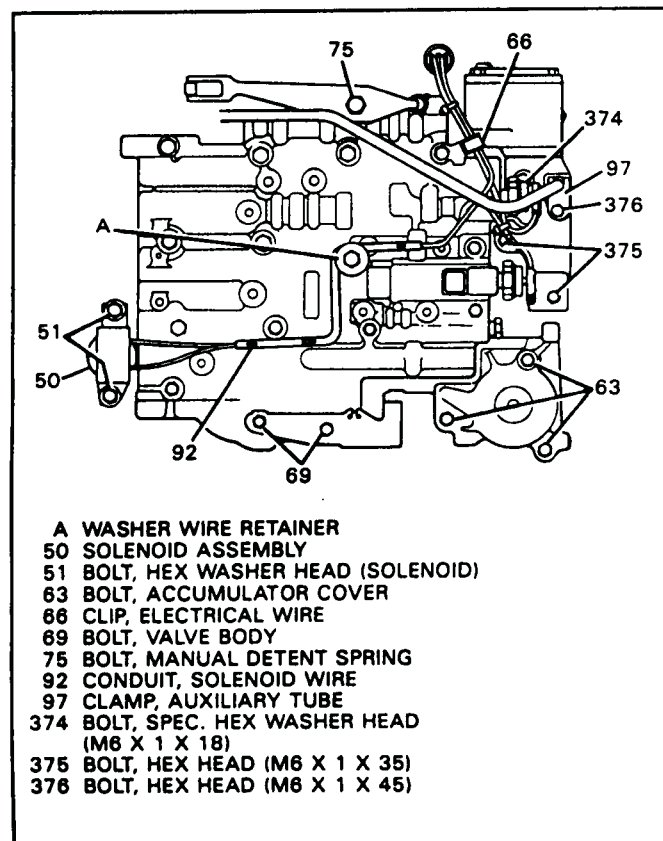

Figure 54
6. Remove solenoid bolts (51), lock-up solenoid (50), wiring harness from the switches, and harness assembly.
9. Remove bolt (75) and remove the manual detent spring (See Figure 54).